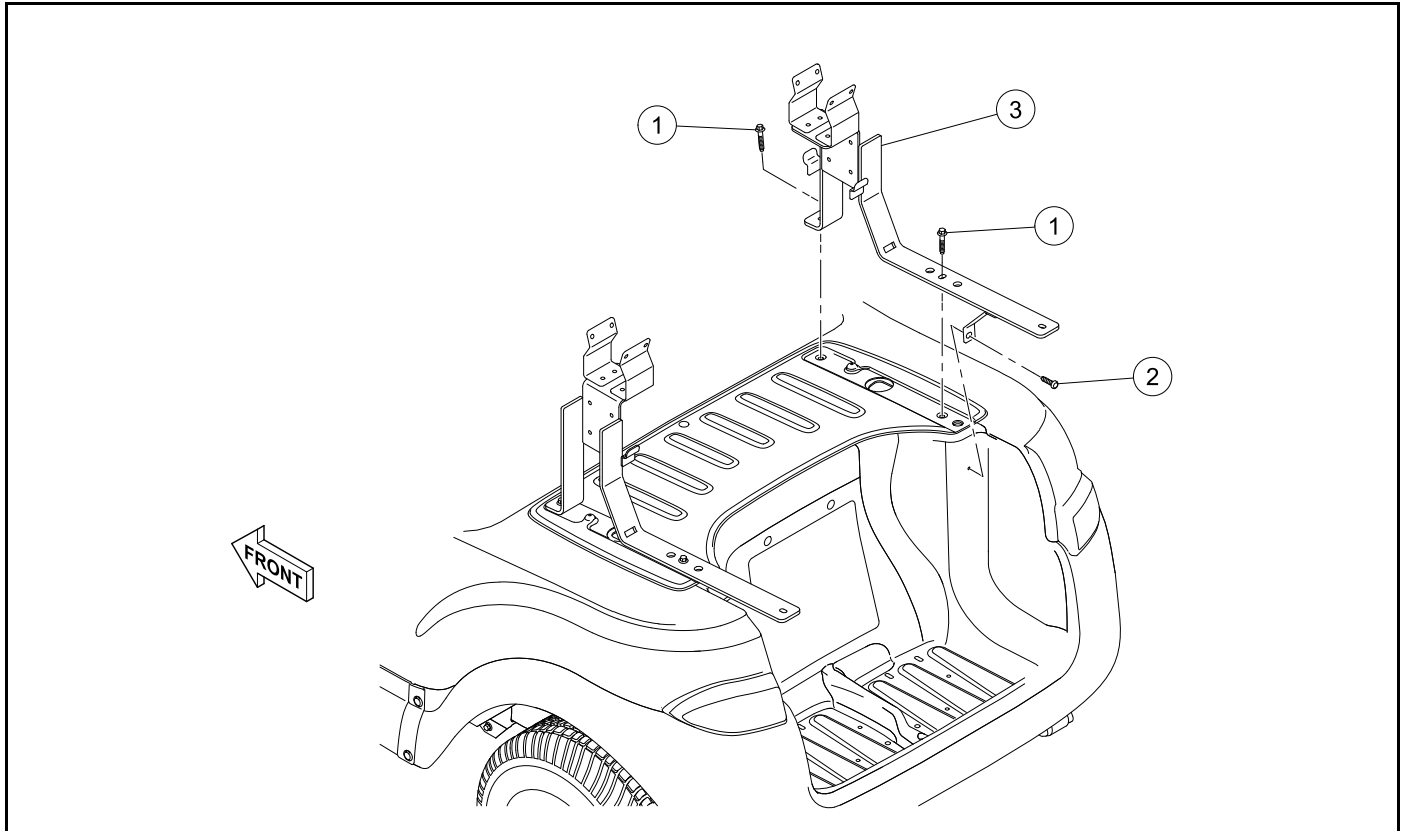

Figure 4-51 2+2 Seat Support
4. Remove the screws (1) (**Figure 4-51**).
5. Remove the screw (2).
6. Remove the seat support (3).
1. Install the seat support (3) onto the vehicle (**Figure 4-51**).
2. Install the screw (2). Tighten the screw to 13 lb·ft (17.5 N·m).
3. Install the screws (1). Tighten the screws to 7 lb·ft (10 N·m).